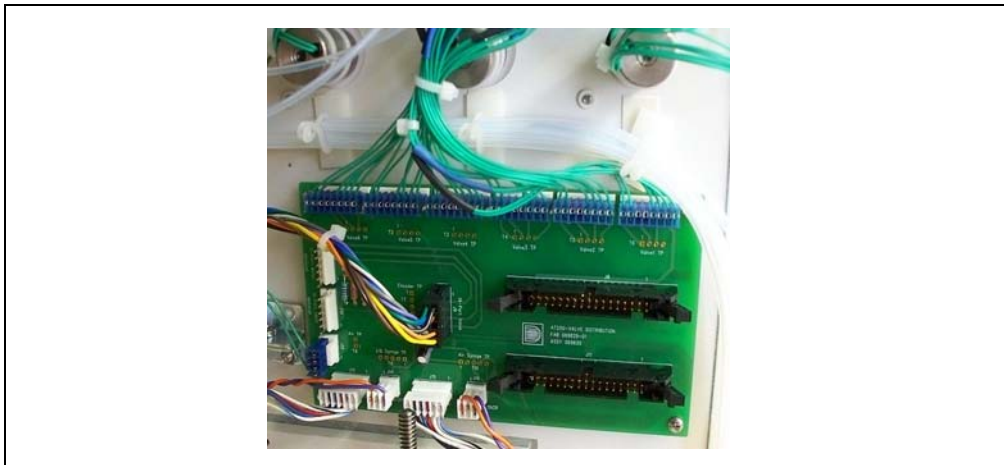

Figure 5-18. Switching Valve Connectors on Valve Distribution PCB
6. Locate the connector for the defective valve on the Valve Distribution PC board (see Figure 5-18). Unplug the connector.